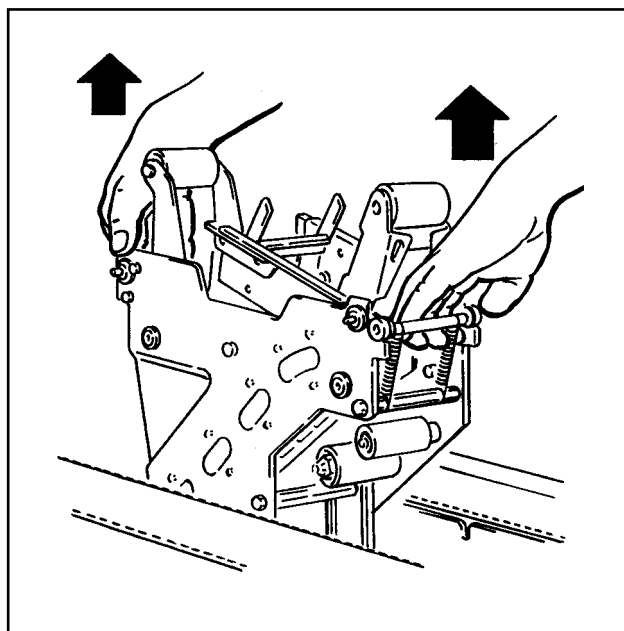

Figure 6-3 – Remove Lower Taping Head
5. Lift the lower taping head, shown in Figure 6-3, straight up to remove it from the case sealer bed.